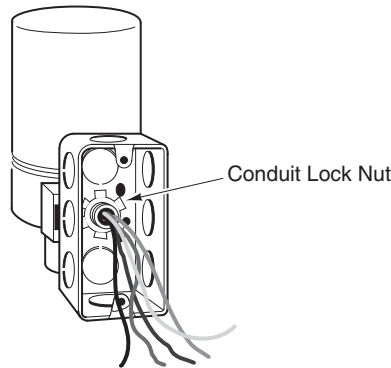

Figure-12 Attachment of Conduit Box to Threaded Adaptor.
5. Loosely install the conduit box and the locknut onto the conduit bushing. Refer to Figure-12.